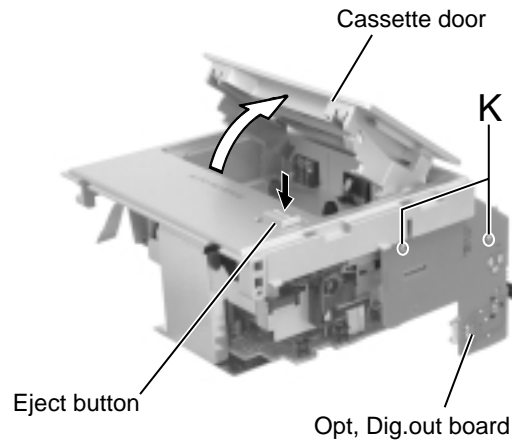

Fig.16
■ Removing the Opt.Dig.out board (See Fig.16)
■ Removing the cassette mechanism assembly (See Fig.16 and 17)